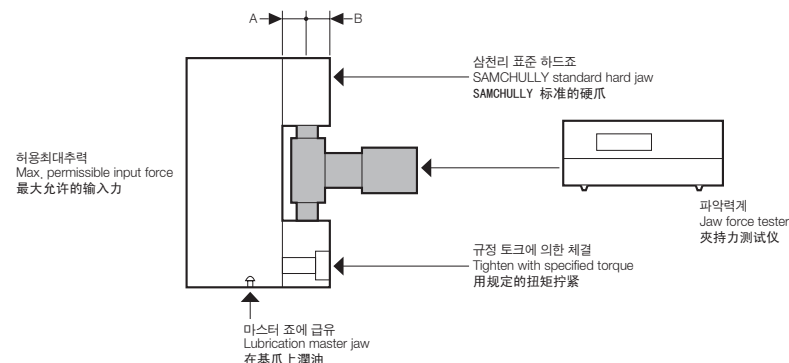

Fig.10
- (1) With SAMCHULLY standard soft top jaw used, the values of grip force are measured with jaw force tester at mid point of soft jaw height(from chuck surface to upper soft jaw face) as shown in Fig.10.
- (2) SAMCHULLY chuck grease is lubrication for obtaining the maximum efficiency of the chuck.
- (3) Mounting bolts of top jaw are tightened with specified torque. (Page18)
- (4) The maximum permissible input force for the wedge plunger is shown in the above table.
- (5) For hydraulic oil supply, the variable capacity type pump which has discharge capacity of 20 liters or more is used. Oil pressure is set with pump's own control devise or a reduction valve which is provided separately from the system.